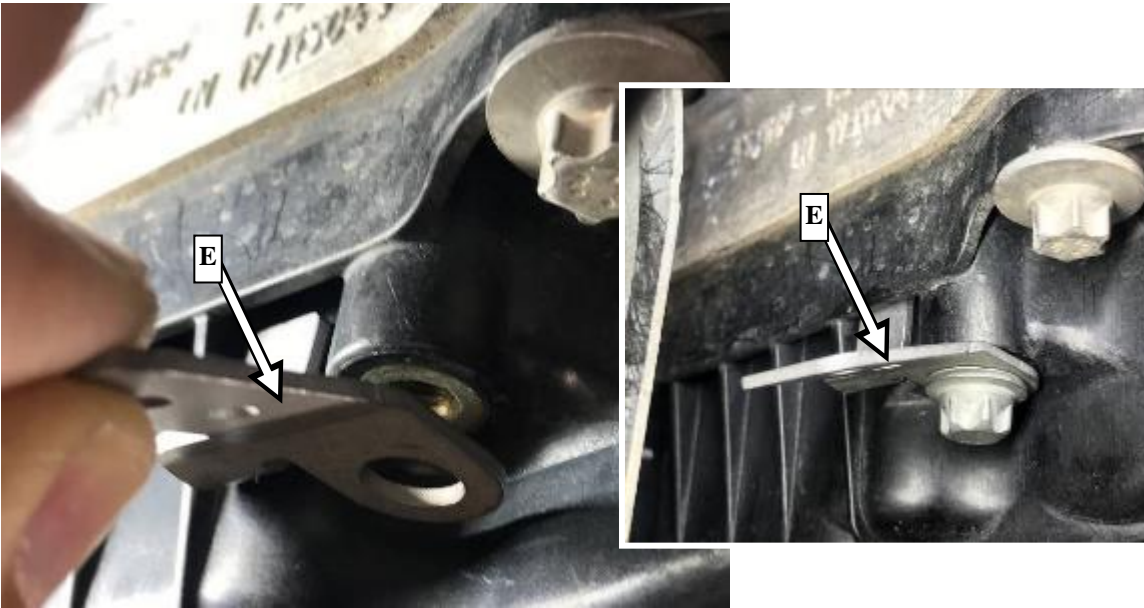

Figure 7
1. Attach new additional wiring harness bracket (E, Figure 7) with new screw to oil pan.
3. Attach additional holder as per **work procedure A**, see Figure 7.